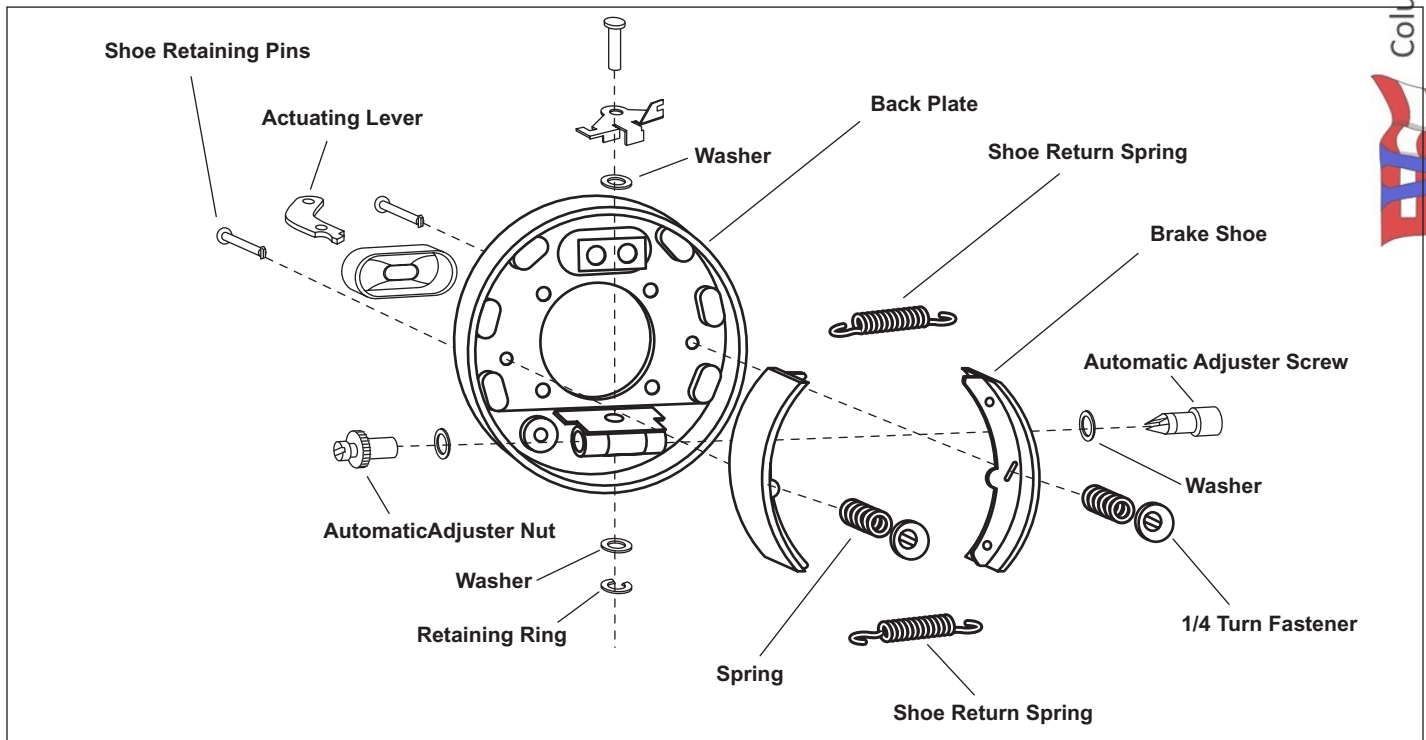

Figure 5-2. Mechanical Rear Drum Brake - Left Side Shown
Refer to Figure 5-2 for steps 3 - 7.
- See Figure 5-2. With the springs attached to the brake shoes, hook bottom of each brake shoe, one at a time, into slots on automatic adjuster screw and opposing retainer. Next, hook top end of each brake shoe behind anchor at the top of brake plate. Fold ends of shoes inward towards brake plate. Secure them in place with brake shoe pins, retainer springs and 1/4 turn fasteners.